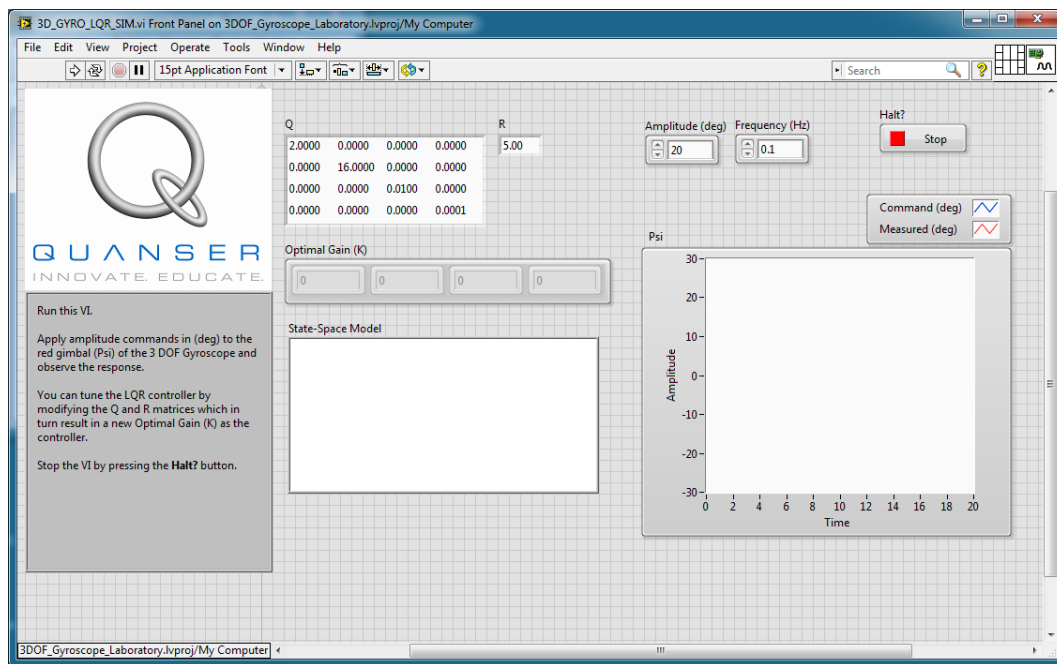

Figure 4.2: 3DOF Gyroscope Simulation VI
3. Open the *3D_GYRO_LQR_SIM.vi* shown in Figure 4.2.